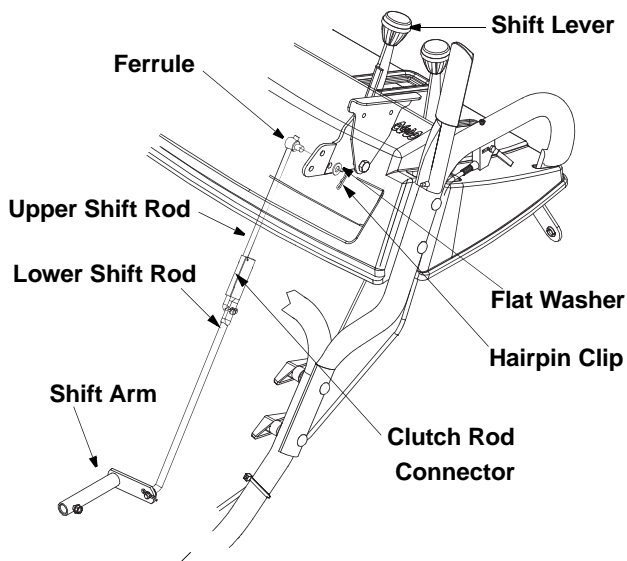

Figure 13
- Remove the hairpin clip and flat washer from the shift handle under the handle panel. See Figure 13.
- Place shift lever in sixth (6) position or fastest forward speed.
- Rotate the ferrule up or down on the shift rod as necessary until the ferrule lines up with the hole shown in Figure 13.